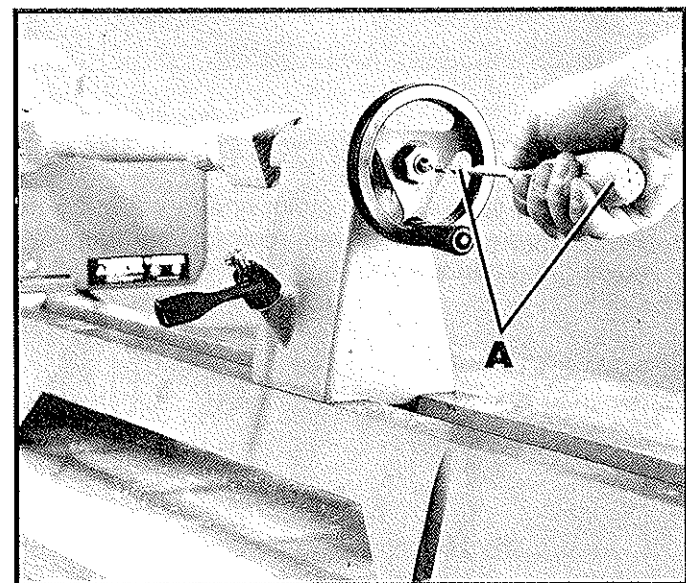

Fig. 86
This wood lathe is supplied with a 5/16" diameter hollow tailstock spindle that permits holes to be bored through the spindle using the accessory 46-708 hollow cup center and a compatible lamp auger (A), as shown in Fig. 86.